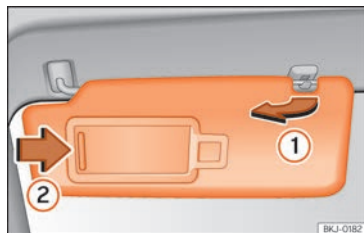

Fig. 117 Sun visor on the driver side.
- The sun visor can be pulled out of its mounting and turned towards the door »» Fig. 117 ①.